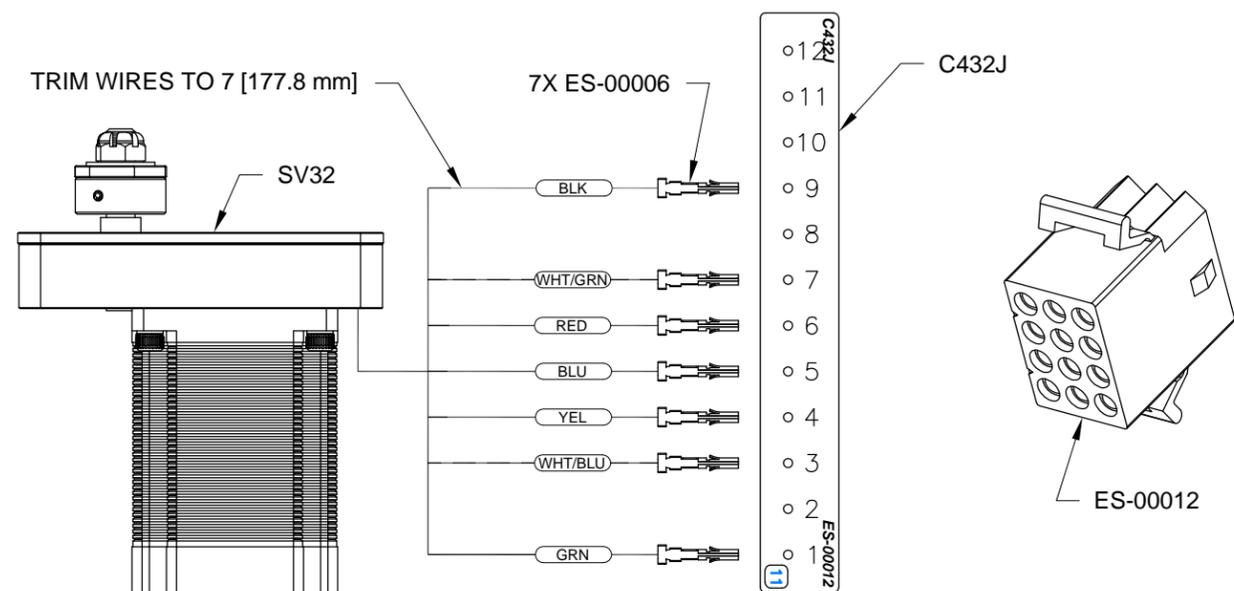

FIGURE 1: INSERT SV32 SERVO WIRES
Step 3: Insert the sockets from the SV32 servo into a 12-pin Molex receptacle as shown in Figure 1.